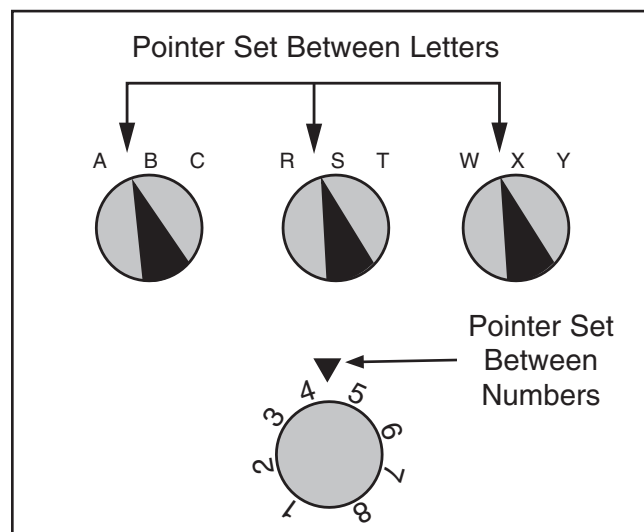

Figure 107. Gearbox dial settings for feed clutch adjustment.
2. Position top feed-speed dial pointers between letters, then position bottom gearbox dial pointer between numbers (see **Figure 107**). This allows feed rod to move freely so adjustments can be made to the clutch.